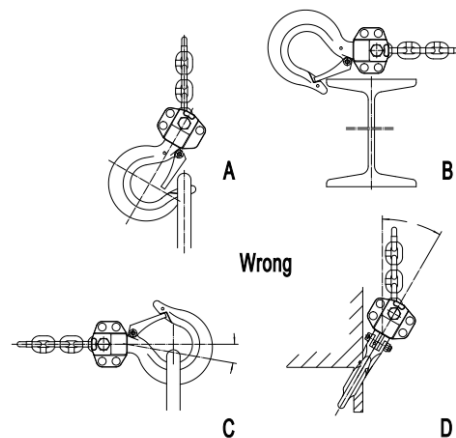

Figure 8
- Never load the hook in front of the safety latch (A, Figure 8).
- Never load the hook tip (B, Figure 8).
- Never load the hook off the centerline (C, Figure 8).
- Never load the hook sideways (D, Figure 8).